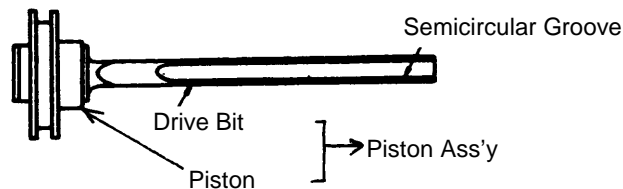

Fig. 10 Semi-circle groove of piston ass'y
- Ensure that the Piston Ass'y ①③ is positioned so its semicircular groove faces toward the Magazine ⑧① (see Fig. 10 below).
- As Safety Plunger (B) ④③, may drop out during disassembly, ensure it is properly assembled.
- Ensure that the air vent on Packing (A) ②⑨ is properly aligned with the air vent on the Tail Cover ③⑥.
- Assembly can be more easily accomplished if the two M5 x 12 Hexagon Socket Hd. Bolts ⑤⑦ which connect